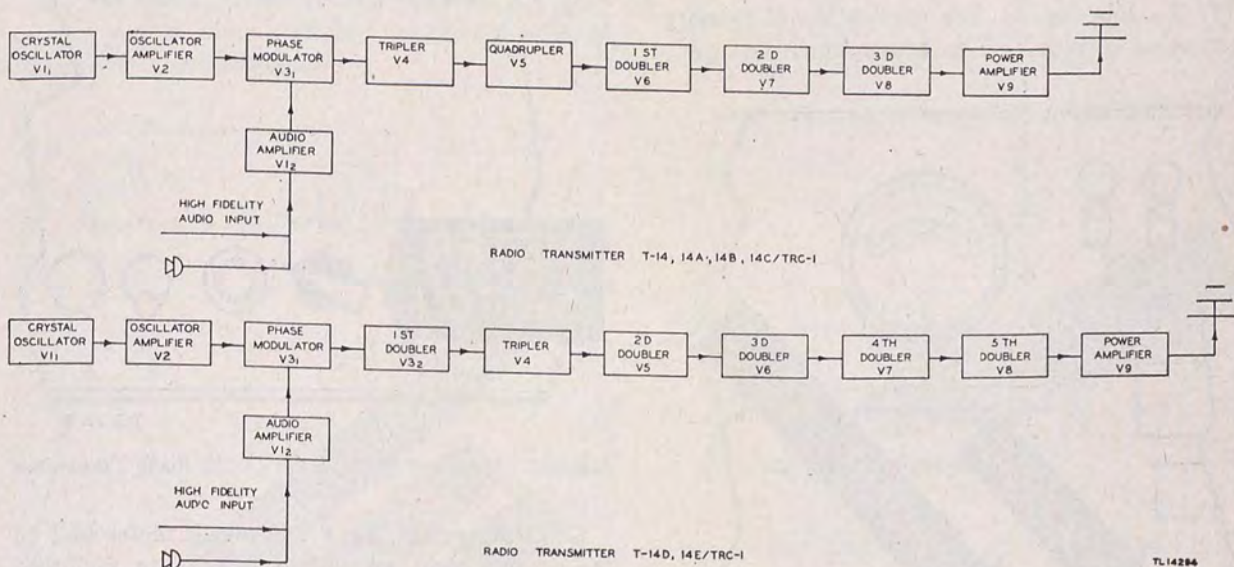

Figure 3. Block diagrams for Radio Transmitters T-14/, T-14A/, T-14B/, T-14C/, T-14D/, and T-14E/.
a. GENERAL. The electrical circuits of Radio Transmitter T-14(\*)/ operate in a conventional manner as illustrated by the block diagram of figure 3 and the chart of tubes and their functions.
b. TUBE AND FUNCTION CHART. The symbol (U) denotes the unlettered model in this chart.